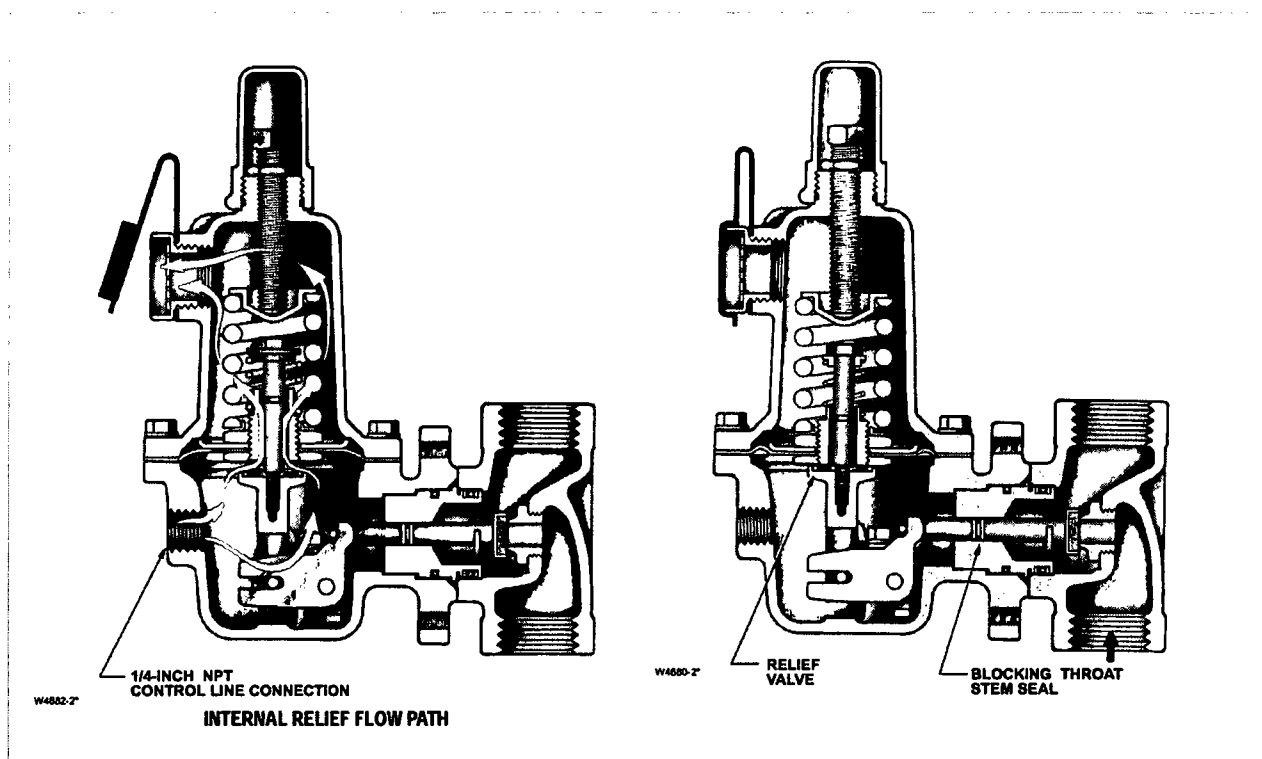

Figure 6. Type 627MR Construction Details
**Type 627MR:** Type 627M with internal relief (figure 6)
A Type 627M, 627HM, or 627MR regulator has a blocking throat stem seal with O-rings and a 1/4-inch NPT control line connection in the diaphragm case (figure 6). A regulator with a downstream control line is used for monitoring applications or other applications where other equipment is installed between the regulator and the pressure control point. The stem seal separates the body outlet pressure from the diaphragm case.